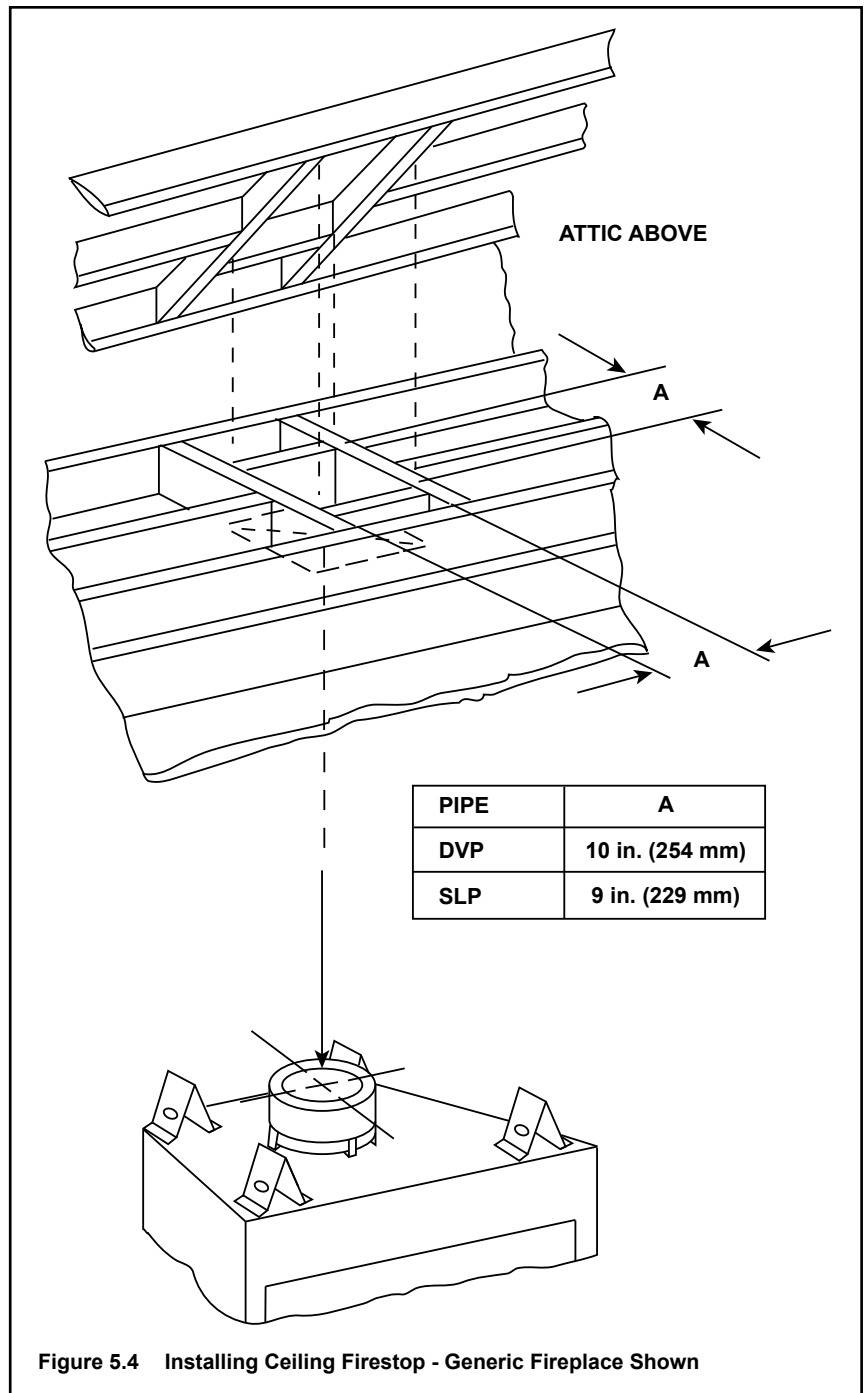

Figure 5.4 Installing Ceiling Firestop - Generic Fireplace Shown
- **DVP pipe only** - Frame an opening 10 in. by 10 in. (254 mm by 254 mm) whenever the vent penetrates a ceiling/floor (see Figure 5.4).
- **SLP pipe only** - Frame opening 9 in. x 9 in. (229 mm x 229 mm) whenever the vent penetrates a ceiling/floor (see Figure 5.4).